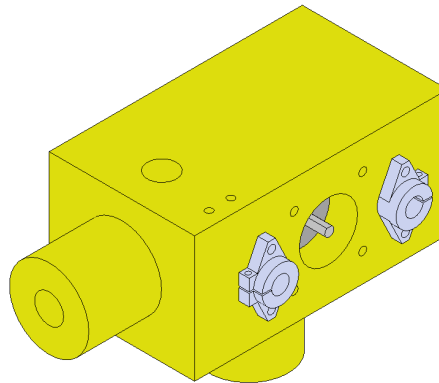

Figure 8: *Y-Axis left driver* with the SHF12 supports.
2. Identify the holes in the front face of the *Y-Axis left driver*. These holes are intended for four (4) M4 inserts. M4 inserts are located in the sides of the central hole. Heat the M4 inserts with a heat gun or a soldering iron and place them into their respective holes. Allow the inserts to cool down before proceeding. Attach two SHF12 linear rod support using M4 screws. Make sure to have the tightening screw facing outward. The assembly is shown on figure 8.